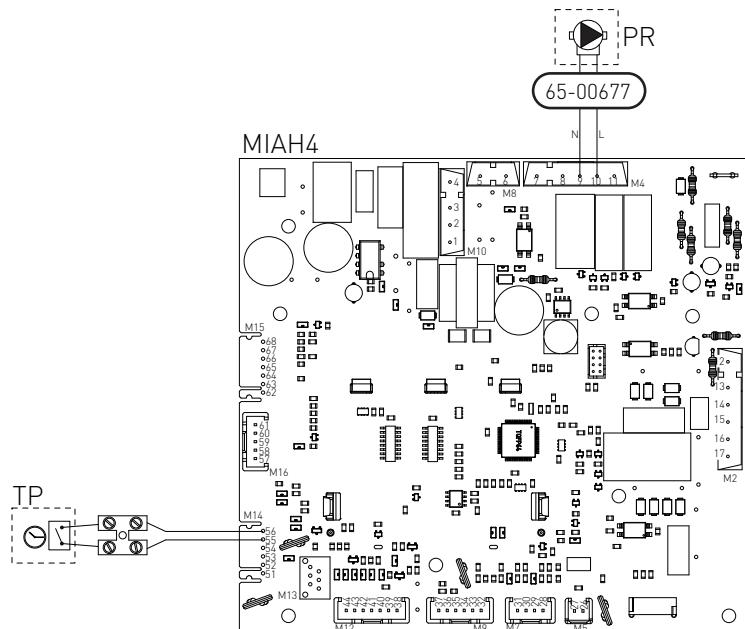

fig. 26
- After removing the crankcase, connect the items below to the electronic board (see fig. 26):